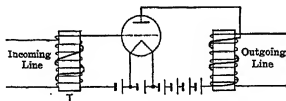

FIG. 176. Telephone amplifier.
Consider the elementary telephone amplifier shown in Fig. 176. A very faint telephone current is flowing in the
**Prob. 10-8.** Insert the telephone repeater shown in Fig. 176 into a 1-way telephone circuit between 2 distant stations.